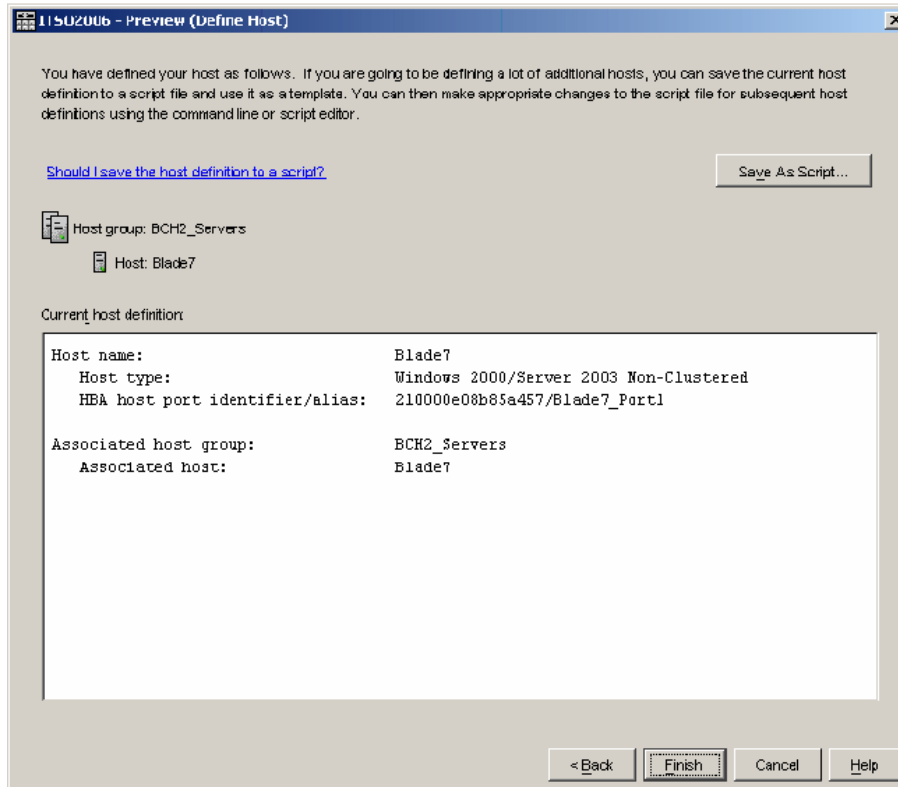

Figure 5-78 Finalizing the host configuration
7. Verify the final configuration and select **Finish** to complete the host definition, as shown in Figure 5-78.